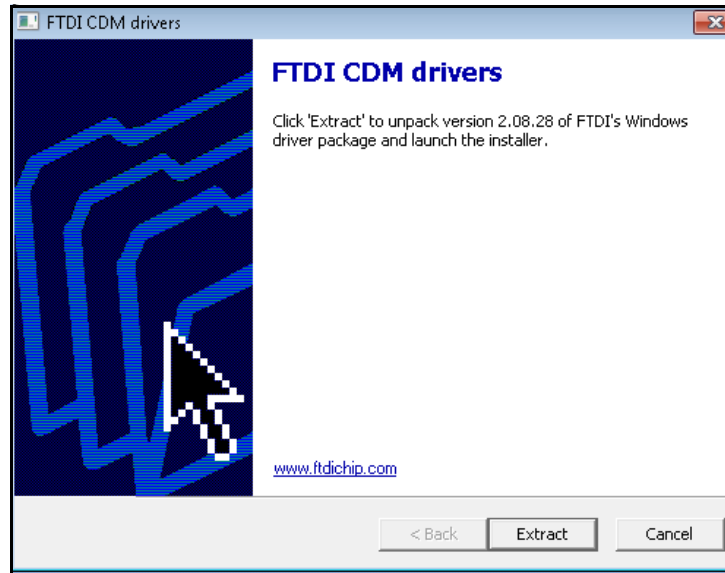

Figure 7: FTDI CDM drivers Screen
5. Click [Extract] button from dialog box (see the Figure 7 below) to extract and install FTDI CDM drivers. The PanaView may be installed by clicking on [Cancel] button if FTDI CDM drivers are already available.